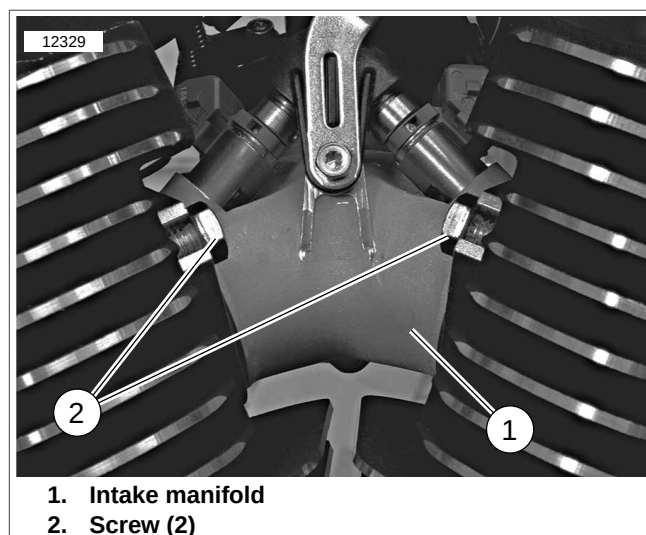

Figure 4-40. Intake Manifold Mounting Screws: Left Side
12. See Figure 4-40. Loosen two screws (2) securing intake manifold to heads on left side of vehicle, but do not remove screws.
1. See Figure 4-40. Make sure two mounting screws (2) are screwed into heads two or three turns.
4. See Figure 4-40. Place induction module assembly in position between engine heads. Slide open slotted ends of mounting flanges under heads of two mounting screws (2) on left side of engine.